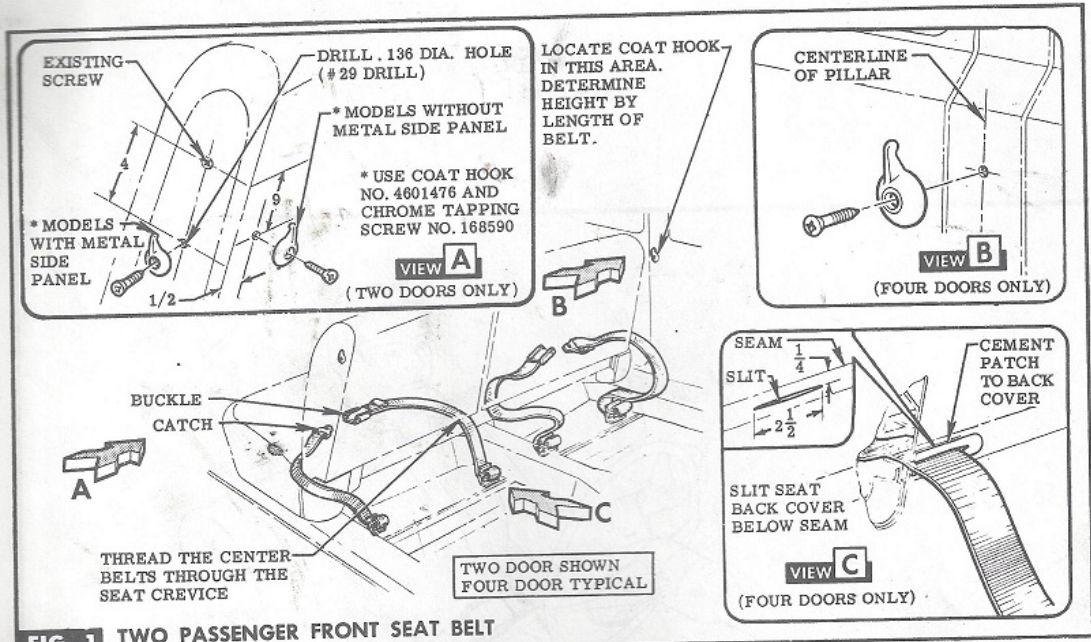

FIG. 1 TWO PASSENGER FRONT SEAT BELT
- SEAT BELTS THROUGH THE SEAT CREVICE AND ATTACH TO CENTER BRACKETS, AS SHOWN IN FIGURE 1. ATTACH BELT HOOK TO SIDE OF SEAT AS SHOWN IN VIEW A.
- STEP 5** ON FOUR DOOR MODELS FRONT SEAT BACK MUST BE SLIT AND FURNISHED PATCH CEMENTED IN POSITION AS SHOWN IN VIEW C, FIGURE 1. THREAD SEAT BELTS THROUGH PATCH AND ATTACH TO CENTER BRACKETS AS SHOWN IN VIEW C AND D. ATTACH BELT HOOK TO PILLAR AS SHOWN IN VIEW B, FIGURE 1.